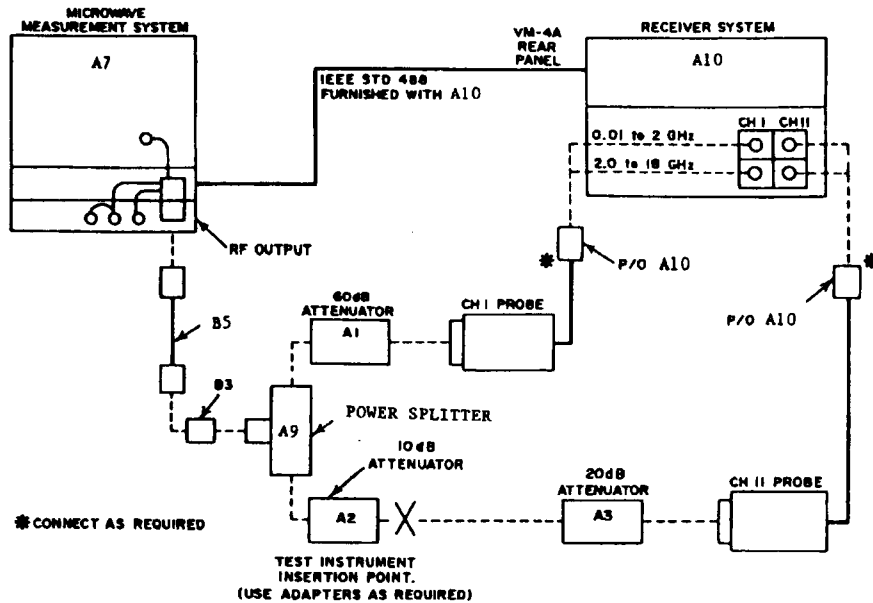

Figure 4. Attenuation measurement - equipment setup.
- (1) Connect attenuation measurement equipment as shown in figure 4.